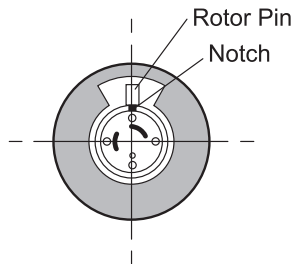

Figure 4-20 Rotor Seal Orientation (Viewed from the Stator)
2. Orient the rotor seal as shown in Figure 4-20, with rotor seal slots facing the stator.